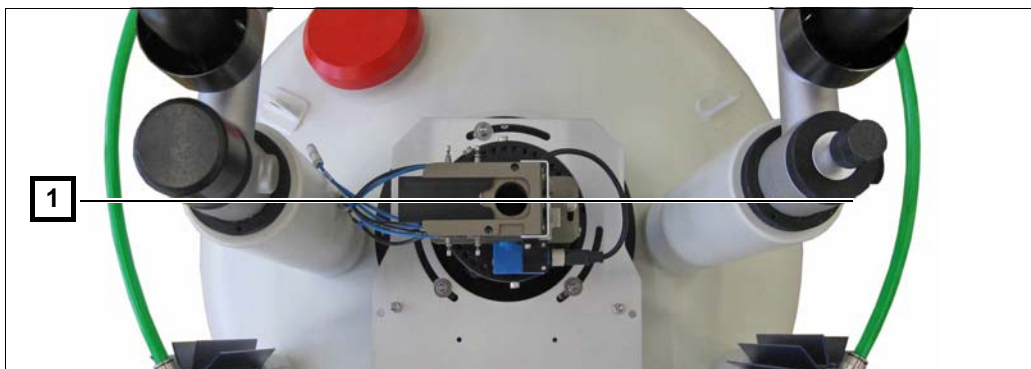

Figure 3.19 Aligning the BST Adapter
20. If required, screw the distance tube on the BST {Tool: Allen key 2.5}. Do not press in the lid switch.
21. Screw the BST adapter flange to the distance tube or the BST {Tool: Allen key 2.5}. Do not press in the lid switch.
22. Then install the BST adapter on the BST adapter flange.{Tool: Flat spanner 7}. Make sure the alignment is correct (see Figure 3.19)